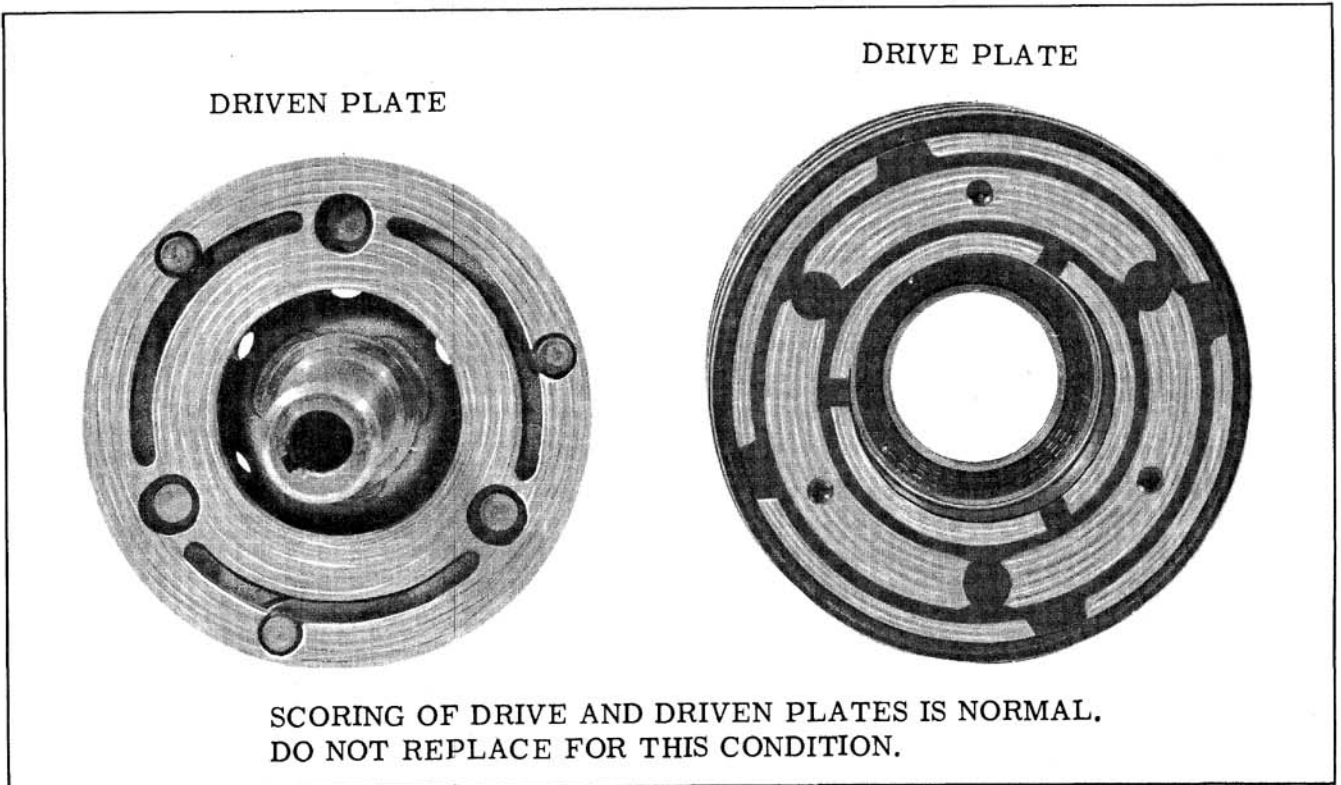

Fig. 14-83 Normal Clutch Plate Wear
6. Inspect driven plate for cracks or stresses in the resilient drive. Do not replace driven plate for a scoring condition. (Fig. 14-83).